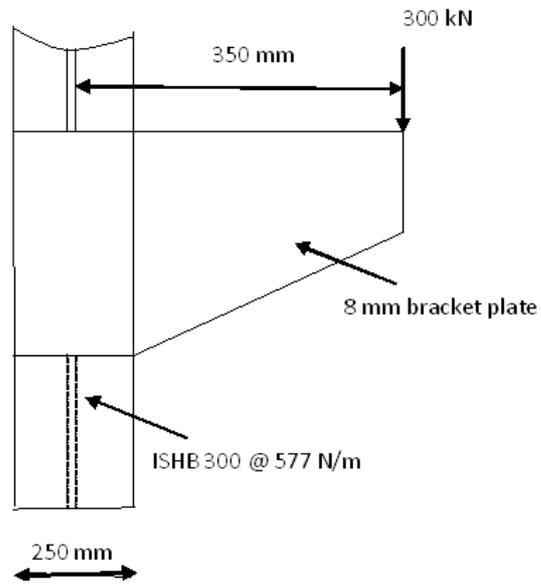

Fig.1
- b) A bracket is bolted to the flange of a column as shown in fig.1, using 8mm thick bracket plate. Using M20 bolts design the connection.